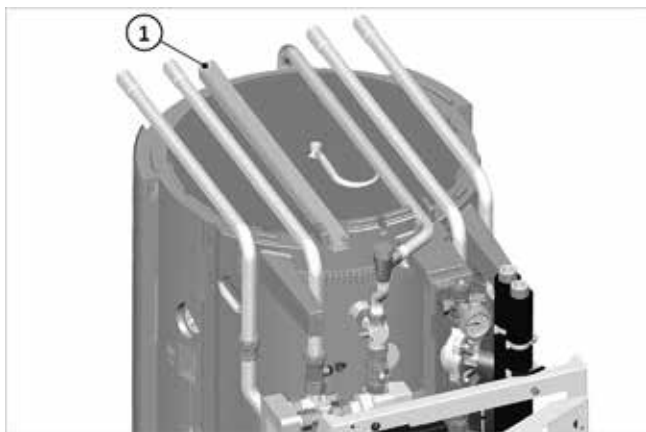

Fig. 44: Cable routing duct
1. Route the Modbus line of the junction box through the cable routing duct → Fig. 44 (1) in the cover area.